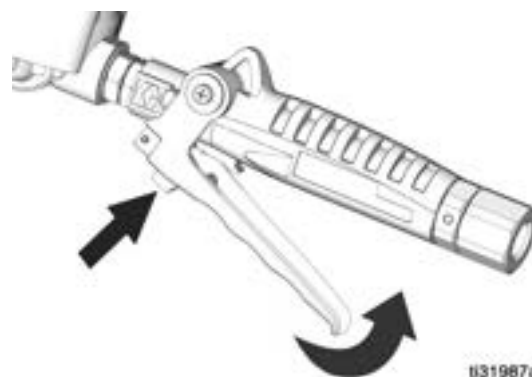

FIG. 10
2. Fully depress the trigger lock button and squeeze the trigger toward the valve body (FIG. 10).